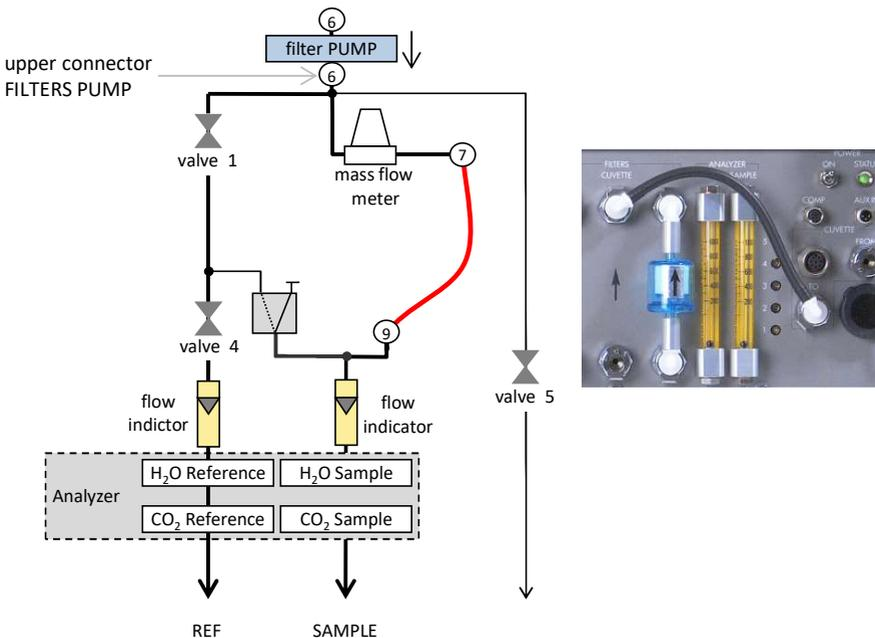

Fig. 57: Gas pathway in the down-stream section during calibration
A short pneumatic path is advantageous for all calibrations of the gas analyzer. This can be achieved by connecting the CUVETTE TO connector to the upper FILTERS CUVETTE connector (see red line 7 to 9 in Fig. 57). It may also be advantageous to close valve 5. But with the exception of the H₂O span calibration, the advantage is minimal. Nevertheless, all connected paths should be purged briefly with the current calibration gas. This can be achieved by briefly opening valve 5 and briefly switching to ZP mode. The calibration itself must be carried out in MP mode when using the setup shown in Fig. 57.
- Connect the CUVETTE TO connector to the upper FILTERS CUVETTE connector (see red line 7 to 9 and picture in Fig. 57).
- Any connected paths should be purged briefly with CO₂ free gas. Open valve 5 briefly, if it has been closed. Also, the mode will briefly be switched to ZP mode (see Fig. 57).
- Connect the CUVETTE TO connector to the upper FILTERS CUVETTE connector (see red line and picture in Fig. 57).
- Close the upper connector labeled DRIER, connect the CUVETTE TO connector to the upper FILTERS CUVETTE connector (see red line and picture in Fig. 57).